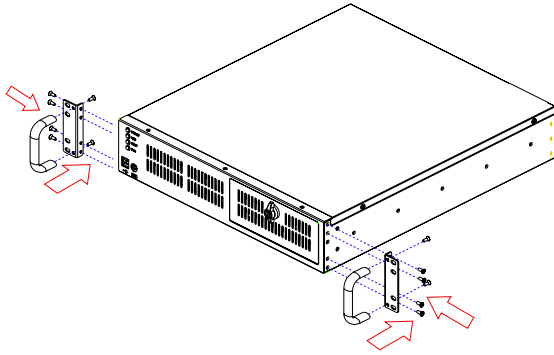

Figure 2.9: Attaching the ears and handles
6. Slide the optical disk drive and the FDD into the bracket and fasten it on both sides with the eight screws provided. (see *Figure 2.9*) Return the 5.25" disk drive bracket with the disk drives in the original position and reattach it inside the chassis with the original screws.
To install the handles onto the chassis, refer to *Figure 2.9* and attach the ears to the chassis, and the handles to the ears on the front-right and front-left edges with the screws provided.